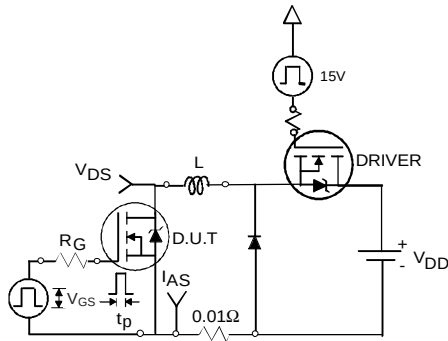

**Fig 12a.** Unclamped Inductive Test Circuit
| $I_{AR}$                   | Avalanche Current ①                                        | See Fig.12a,12b,15,16  | A     |
- ③  $I_{SD} \leq 75A$ ,  $di/dt \leq 220A/\mu s$ ,  $V_{DD} \leq V_{(BR)DSS}$ ,  $T_J \leq 175^\circ\text{C}$ .
- ④ Pulse width  $\leq 1.0\text{ms}$ ; duty cycle  $\leq 2\%$ .
- ⑤  $C_{oss \text{ eff.}}$  is a fixed capacitance that gives the same charging time as  $C_{oss}$  while  $V_{DS}$  is rising from 0 to 80%  $V_{DSS}$ .
- ⑥ Limited by  $T_{Jmax}$ , see Fig.12a, 12b, 15, 16 for typical repetitive avalanche performance.
- ⑦ This value determined from sample failure population. 100% tested to this value in production.
- ⑧ This is applied to D2Pak, when mounted on 1" square PCB (FR-4 or G-10 Material). For recommended footprint and soldering techniques refer to application note #AN-994.
- ⑨ Max  $R_{DS(on)}$  for D2Pak and TO-262 (SMD) devices.
3. Equation below based on circuit and waveforms shown in Figures 12a, 12b.